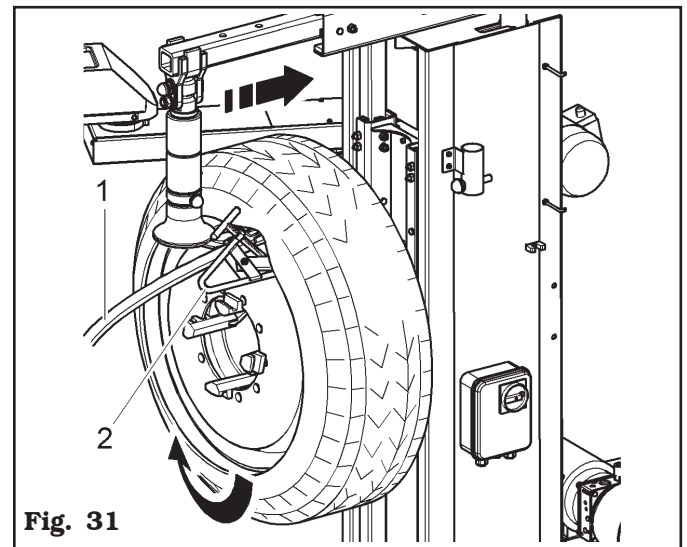

Fig. 31
28. turn self-centring chuck clockwise until lever (**Fig. 31 ref. 1**) is introduced in the housing obtained on the hook tool;
29. turn the self-centring chuck clockwise with lever (**Fig. 31 ref. 1**) hooked up to the complete insertion of the tyre outer bead.
30. remove lever (**Fig. 31 ref. 1**), clamp for alloy rims (optional) (**Fig. 31 ref. 2**) and extract the hook tool by turning the self-centring chuck counter clockwise and translating it outwards;